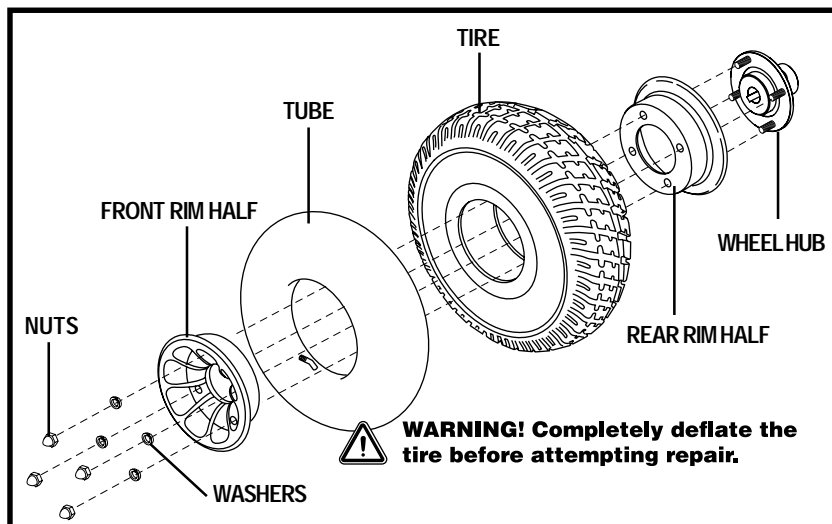

Figure 25. Jazzy 610 Drive Wheel Disassembled
6. Remove the nuts and washers from the wheel hub and separate the front and rear rim. See figure 25.